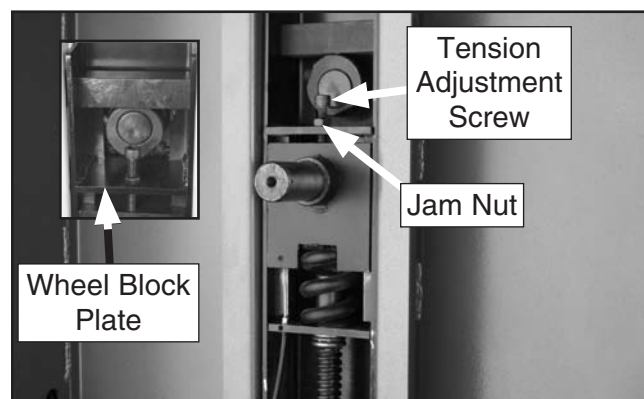

Figure 101. Example of quick release tension lever adjustment screw.
5. Thread the tension adjustment screw (**Figure 101**) down until it contacts the wheel block plate, then back it off 1-2 turns.